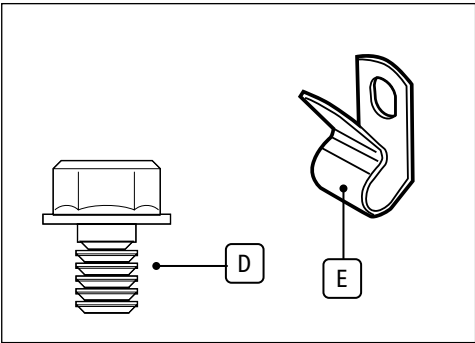
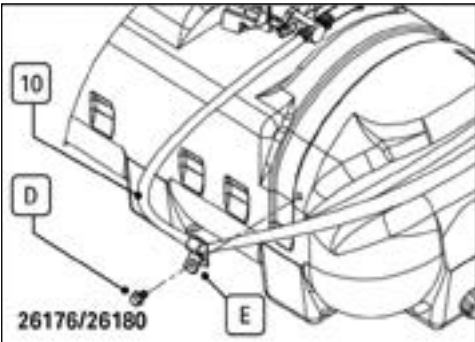

Fig. 6
Fig. 8
6.3 Attaching Spray Gun Hose Guide to Tank (Fig.6 – Fig.8)